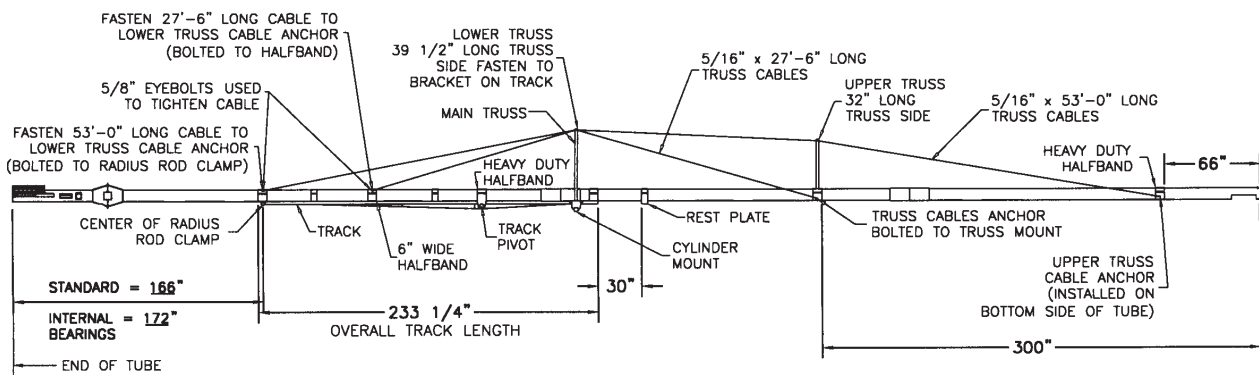

FIG. 40
See Fig. 40 on page 34 for location of track, truss and undercarriage components.
8. On 52' models fasten the undercarriage rest plates to the tube with a 4" wide halfband and four 3/8" x 1-1/2" (grade 5) hex head capscrews and nylon locknuts. See Fig. 40 on page 34 for location.
See Fig. 40 on page 34 cable lengths, truss mounts and cable anchor locations.